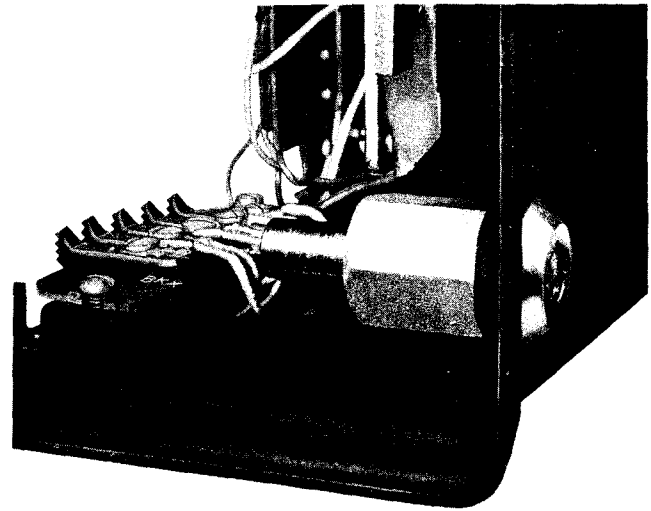

Fig. 15—KS-19277 Lock Installed in Upper Housing
3.12 The lock is held in place by a spring steel washer and heavy steel nut (Fig. 15). Use of a tubular key permits the back of the lock to rotate and screw on to the end of a security fastener.